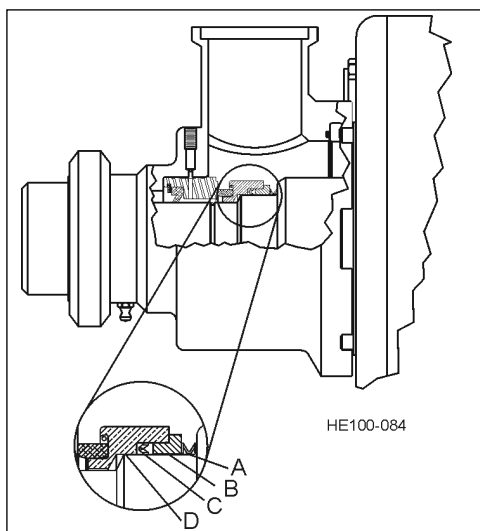

Figure 65 - Orientation of Seal Components
1. Place the wavy washer spring (See Figure 65, Item A) on the shaft.
2. Install the seal back-up ring. (See Figure 65, Item B).
3. Install the U cup seal with the opening facing toward the product side, as shown in Figure 65, Item C.
4. Place the seal body (See Figure 65, Item D) on the shaft, aligning the slots with seal drive pins.